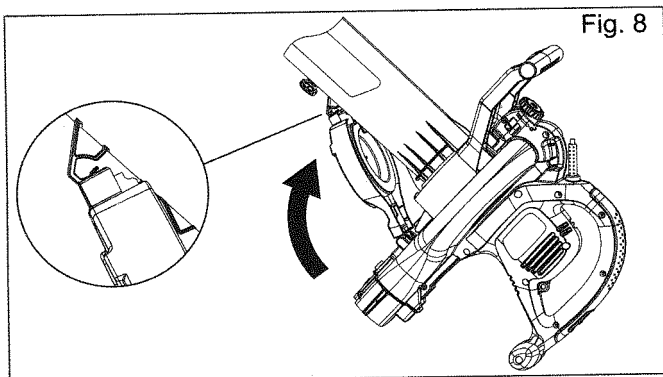

Fig. 8
4. Make the inter cover hook the hook of the rear tube (Fig. 8).